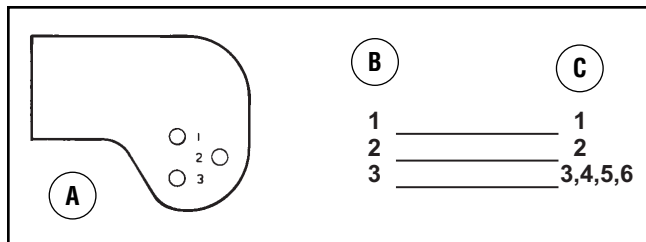

Figure 38: Gauge wheel bracket positions
3. Look at each **gauge wheel bracket**. There are 3 holes in each bracket and a number next to each hole. The number for the height of cut position on the **deck lift lever** indicates the correct hole to use on each **gauge wheel bracket** (Figure 38).
4. Assemble the axle bolts to the **gauge wheel brackets** using the correct hole in the bracket as indicated (Figure 38).
NOTE: If the height of cut position is changed by the deck lift lever, you must move the gauge wheels to the correct hole (Figure 38) to keep a level height of cut.